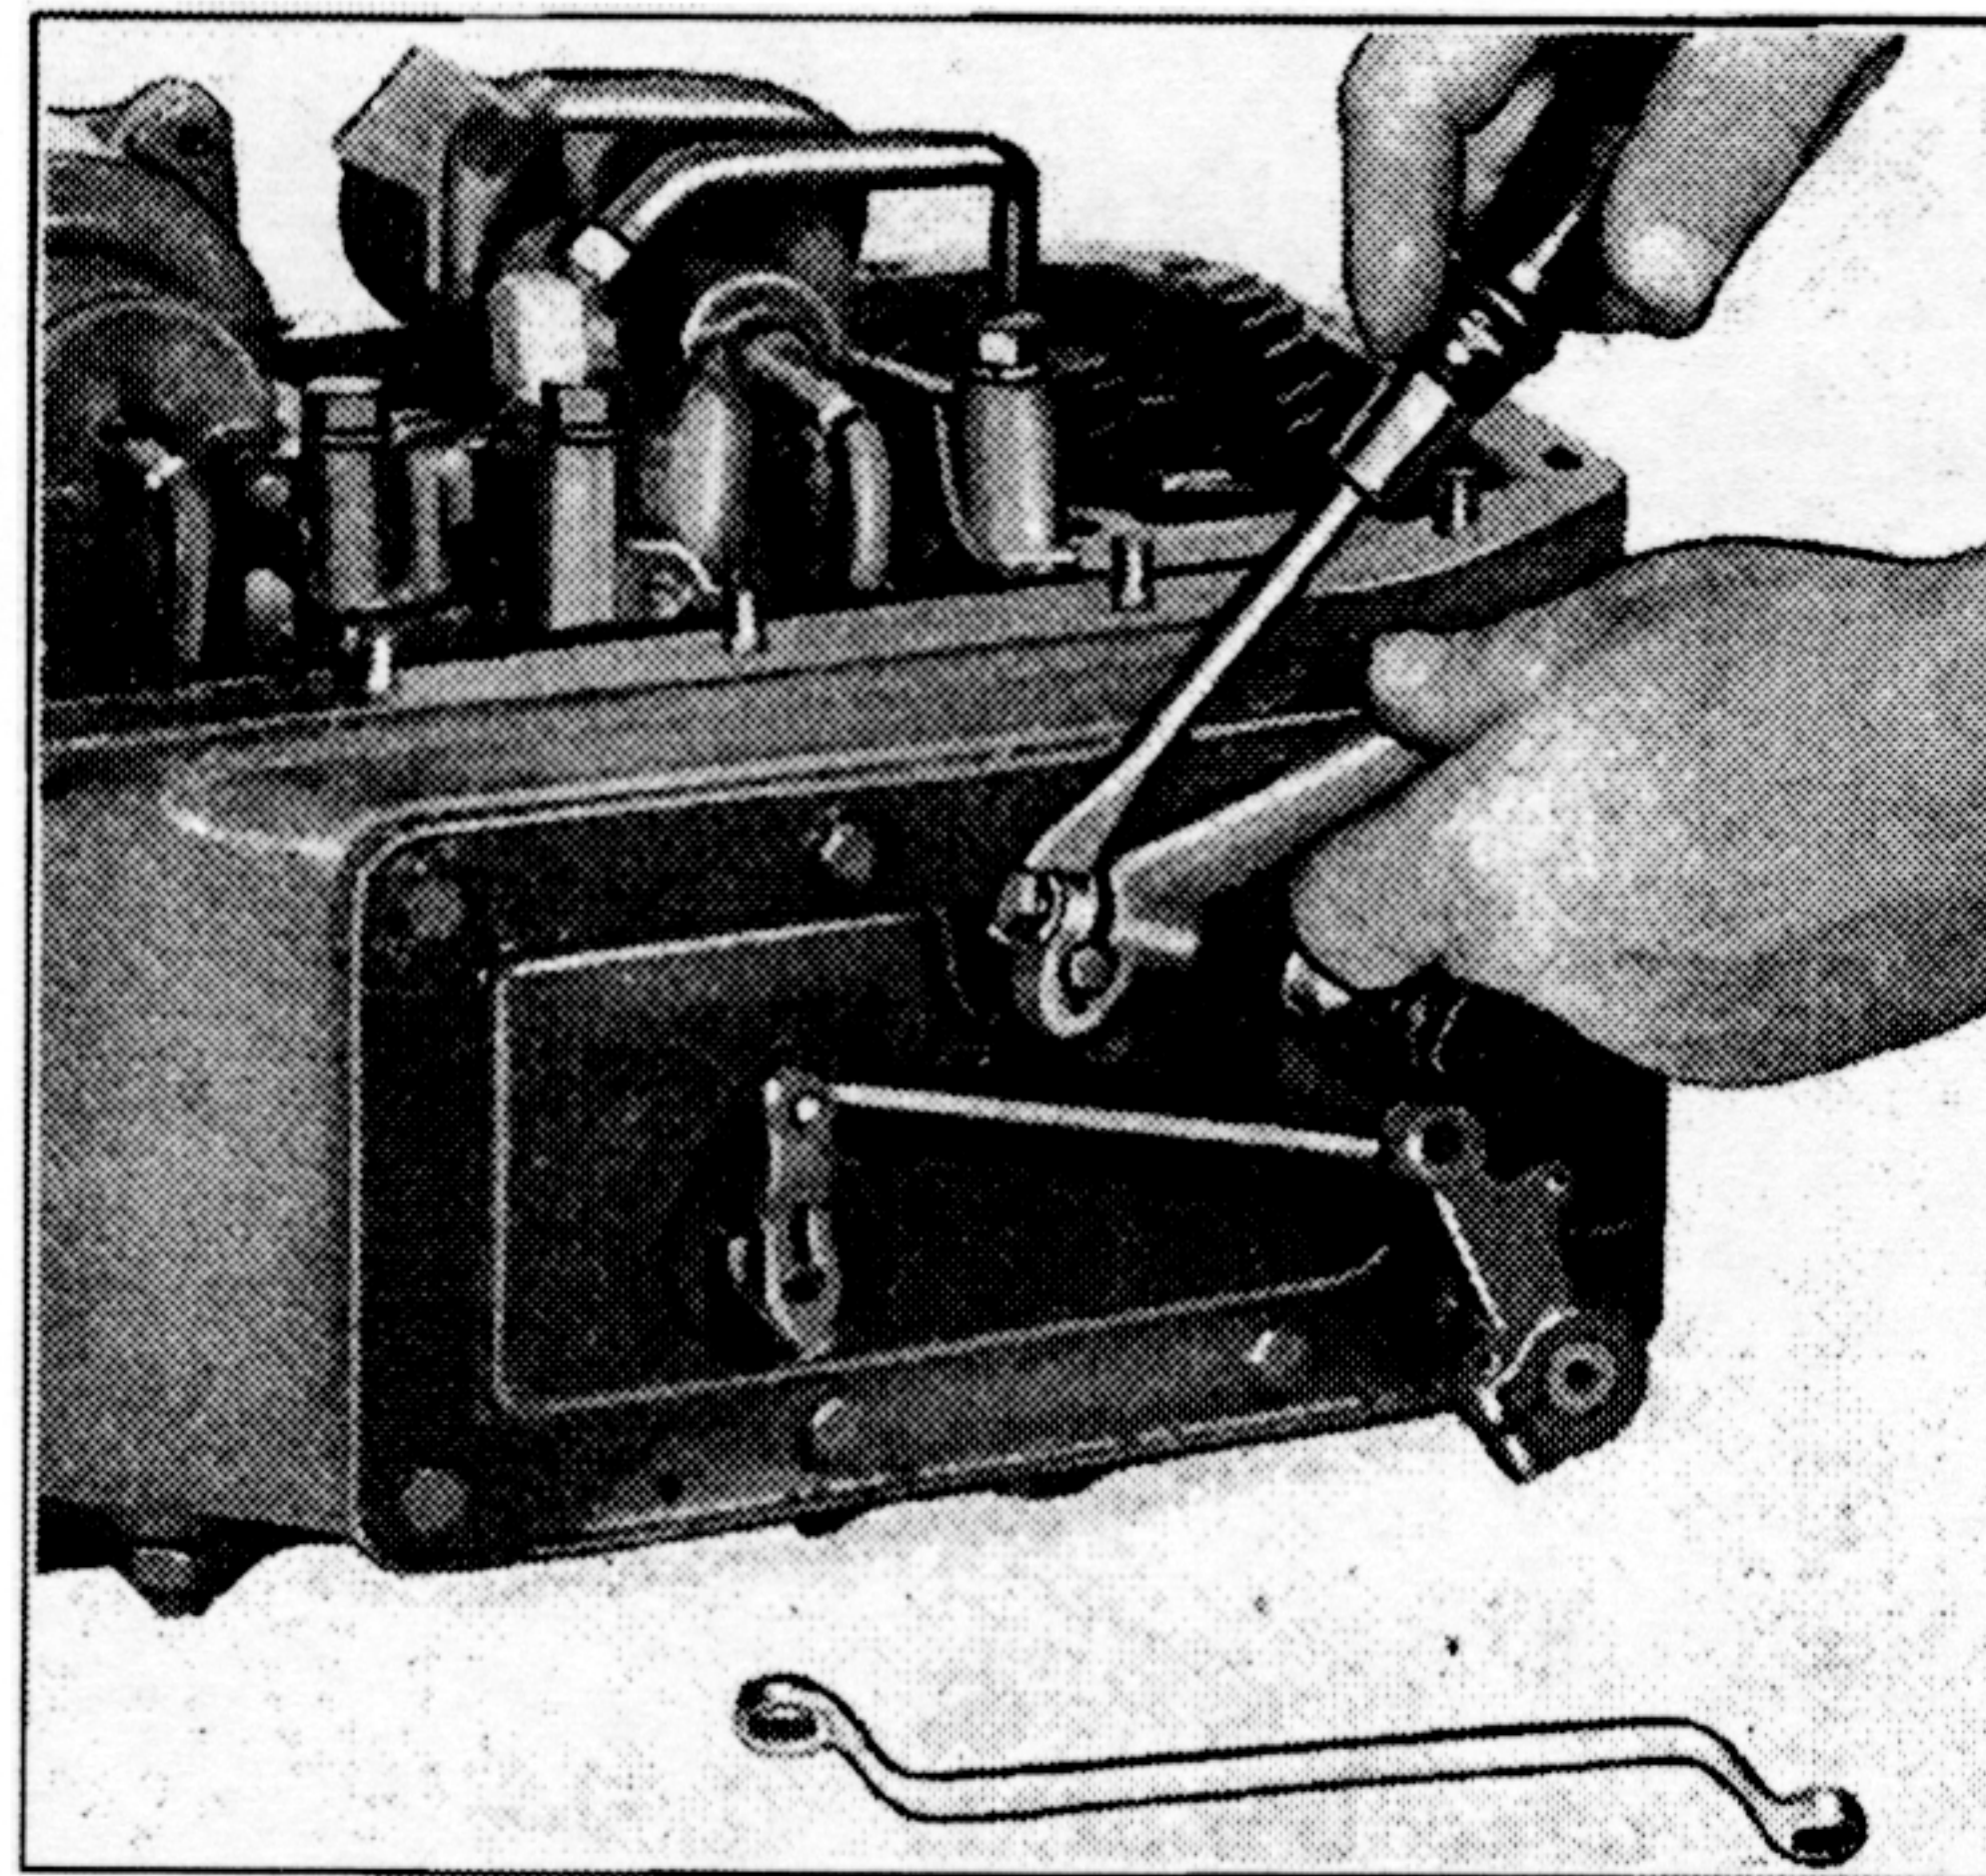

Fig. 20. External Lever Removal
1. Loosen clamp bolt in rear unit cam operating lever and pry lever off shaft. See Fig. 20. Disconnect cross shaft from forward and reverse shifting lever by removing cotter pin and remove cross shaft with cam operating lever.